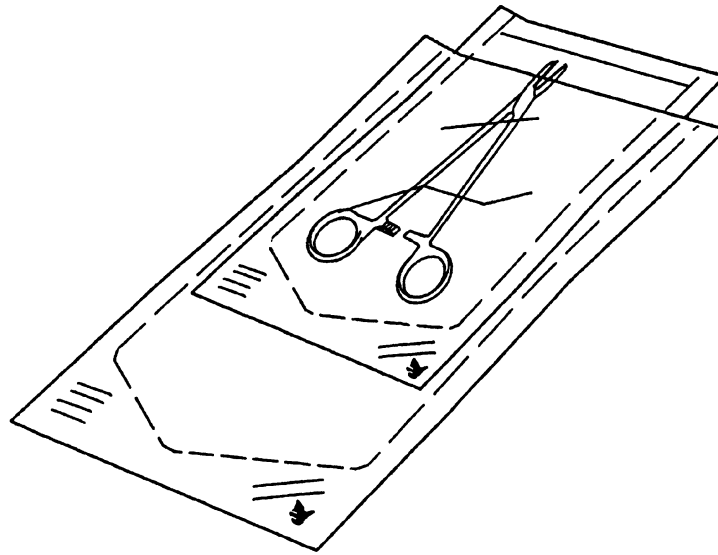

Figure 9.
2. Instruments prepared in paper/plastic peel pouches can be double packaged. Slide one into the other - paper to paper, plastic to plastic. Then you can see the contents, and air and steam can easily pass through the paper during the sterilization process (Figure 9).